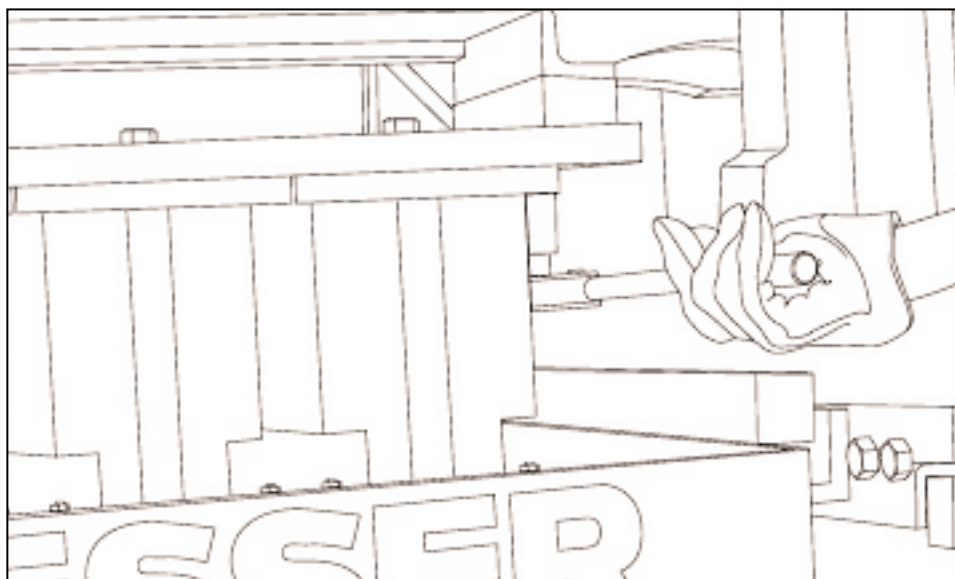

Figure 5.34 TIGHTENING THE HEAD BOLTS.
5.8.17 Tighten the head bolts (figure 5.34).